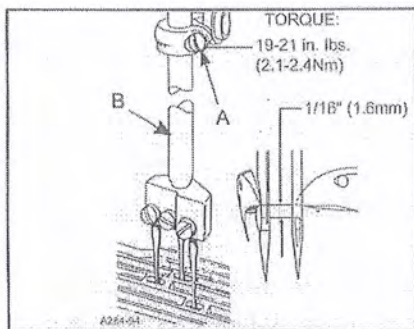

FIG. 9
screw(A, Fig. 9) and move needle bar (B) as required to attain dimension.